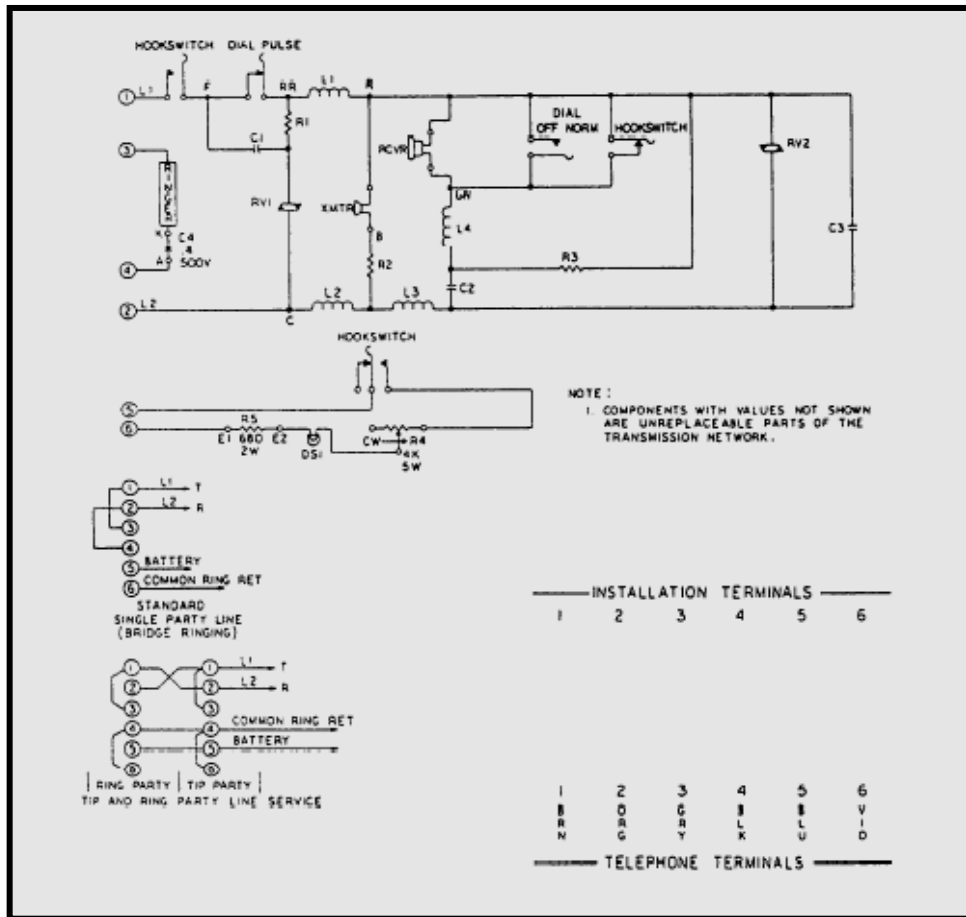

Figure 6-5.—Schematic diagram of the type G (version 1) telephone set
**DIAL ILLUMINATION LAMP AND LAMP DIMMER CONTROL.**— When the handset is removed from the handset holder, a lamp mounted above the dial illuminates the dial. You can vary the brightness of the dial lamp with the lamp dimmer control, which is an adjusting screw. By using a screwdriver, you can access the dimmer control through a cutout provided in the cover. The lamp and lamp dimmer control circuit (fig. 6-5) is a basic dc circuit where dc voltage is applied to the telephone set terminal board on terminals 5 and 6. Terminals 4 and 6 will be connected to lead JJ9 of the ship's cable. The voltage is extended to the lamp and lamp dimmer control circuit through a pair of hookswitch contacts that close when the handset is removed from the handset holder.
**RINGER.**— A gong and clapper-type ringer is used in the telephone set to alert personnel of an incoming call. The ringer circuit (fig. 6-5) is a basic ac circuit where 75 to 110 volts ac, 20 Hz is applied to terminals 3 and 4 of the telephone set terminal board. Capacitor C4, located in the transmission network, tunes the ringer and blocks dc voltage.
The ringer can be connected to the telephone line for one-party (private-line) service or two-party (party-line) service (fig. 6-5). For one-party service, ringing voltage is applied to the telephone set terminal on the tip (1) and ring (2) terminals. It is then bridged to terminals 3 and 4.